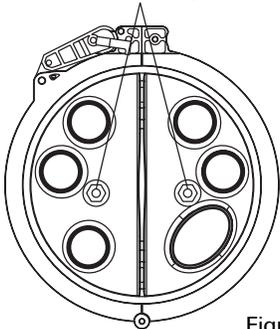

Figure 16
- Grounding using two ground feedthrough studs (Figure 16)